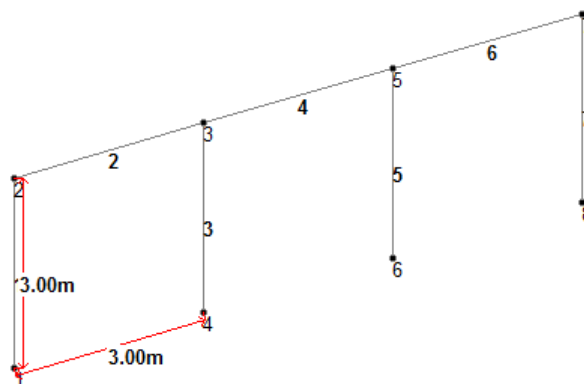

Figure 2-27 *Portal frame structure*
In this example, you will create a structure, as shown in Figure 2-27, using the **Snap Node/Beam** method.
Step 9: Again, choose the **Snap Node/Beam** button from the **Snap Node/Beam** window; the **Snap Node/Beam** mode will be activated and repeat the previous steps to create nodes 5, 6, 7, and 8 with members 4, 5, 6, and 7, refer to Figure 2-27.
Step 10: Next, close the **Snap Node/Beam** window; the structure is created, as shown in Figure 2-27.